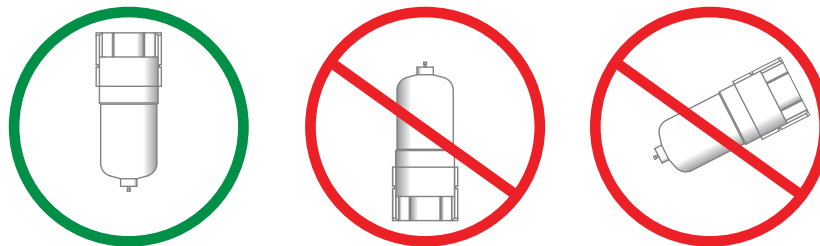

fig. 6
2. Ensure the filter is mounted in a vertical position. Do not install filter inverted or angled (fig. 6).